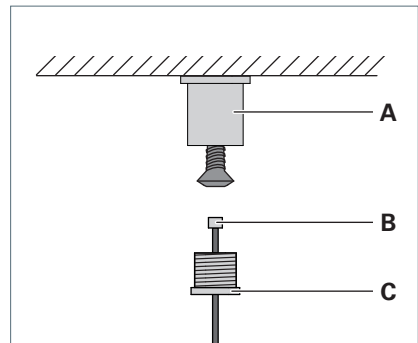

Fig. 10: Mounting the ceiling fixture.
- ▶ Screw the sleeve **A** to the ceiling using a suitable screw, see Fig. 10.